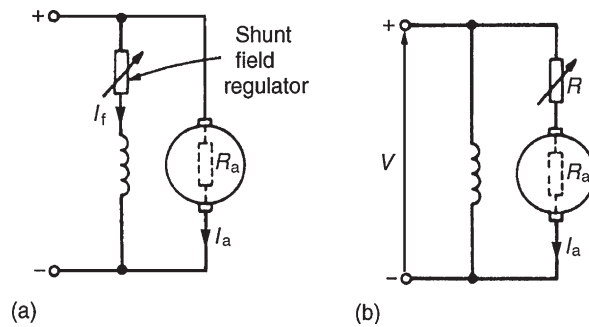

Figure 22.29
(see equation (9)). The speed is varied either by varying the value of flux,  $\Phi$ , or by varying the value of  $R_a$ . The former is achieved by using a variable resistor in series with the field winding, as shown in Fig. 22.29(a) and such a resistor is called the **shunt field regulator**.
are obtained by increasing the resistance in the armature circuit, as shown in Fig. 22.29(b), where
- (a) With reference to Fig. 22.29(b), back e.m.f. at 120 A,  $E_1 = V - I_a R_a = 500 - (120)(0.2)$